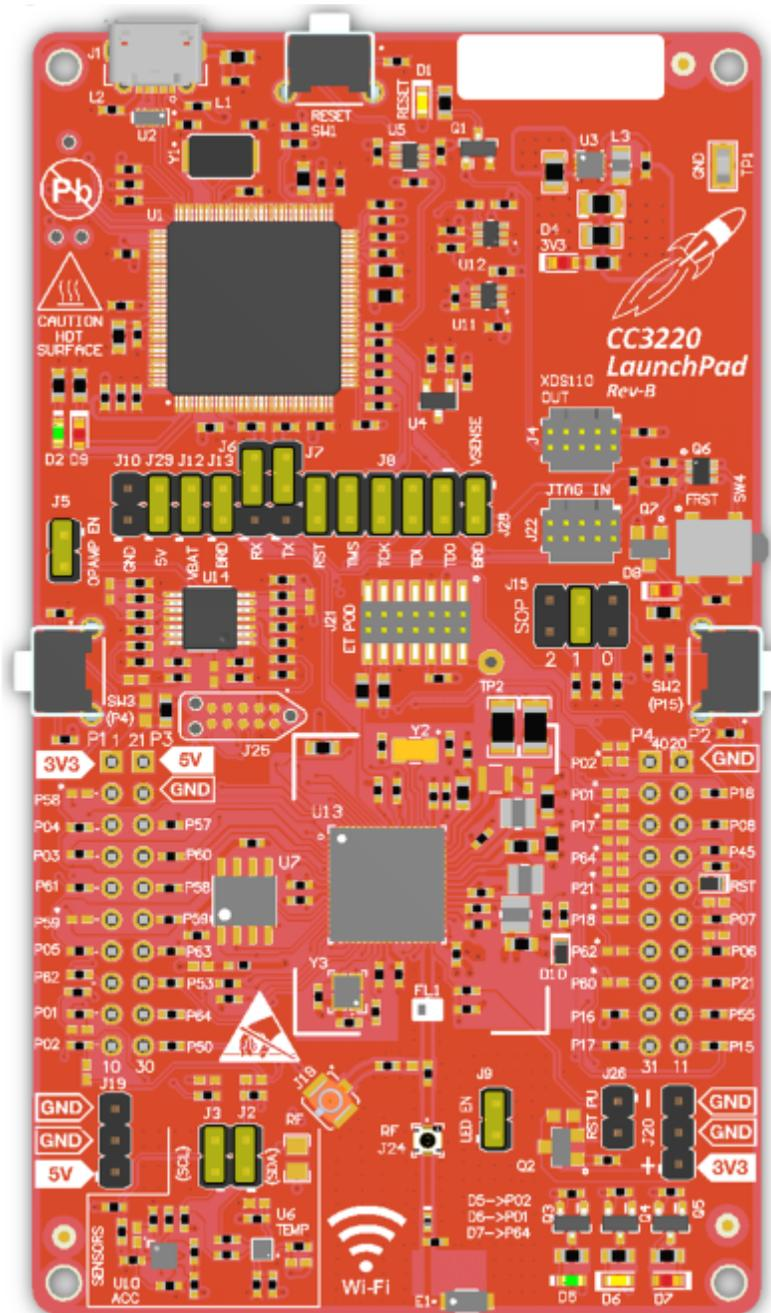

Figure 9. CC3220 Default Jumpers Settings
- A CC3220 LaunchPad flashed with the out-of-box package with the jumpers set correctly. See Figure 9 for reference when powering from USB. J5 is not mandatory